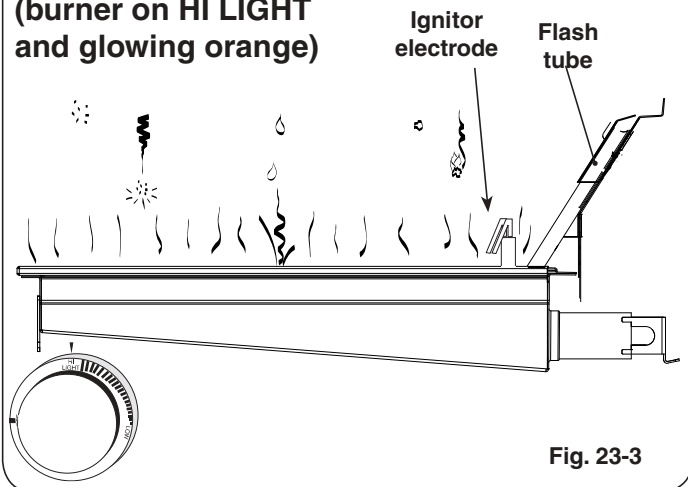

Fig. 23-3
- **DO NOT** place food on the cooking grid until the IR burner glows orange (Fig. 23-3). Drippings are heated and evaporate instead of sticking to and impairing burner function.